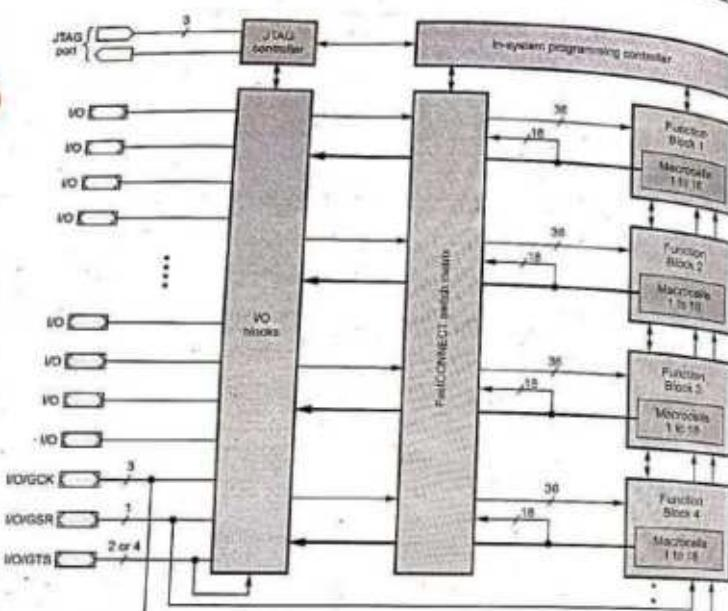

Fig. 7.16.4 XC9500 architecture
- In XC9572, the functional blocks and I/O blocks are fully interconnected by the FastCONNECT switch matrix. The IOB provides buffering for device inputs and outputs. Each FB provides programmable logic capacity with 36 inputs and 18 outputs. The Fast CONNECT switch matrix connects all FB outputs and input signals to the FB inputs. For each FB, 12 to 18 outputs (depending on package pin-count) and associated output enable signals drive directly to the IOBs. This is illustrated in Fig. 7.16.4.